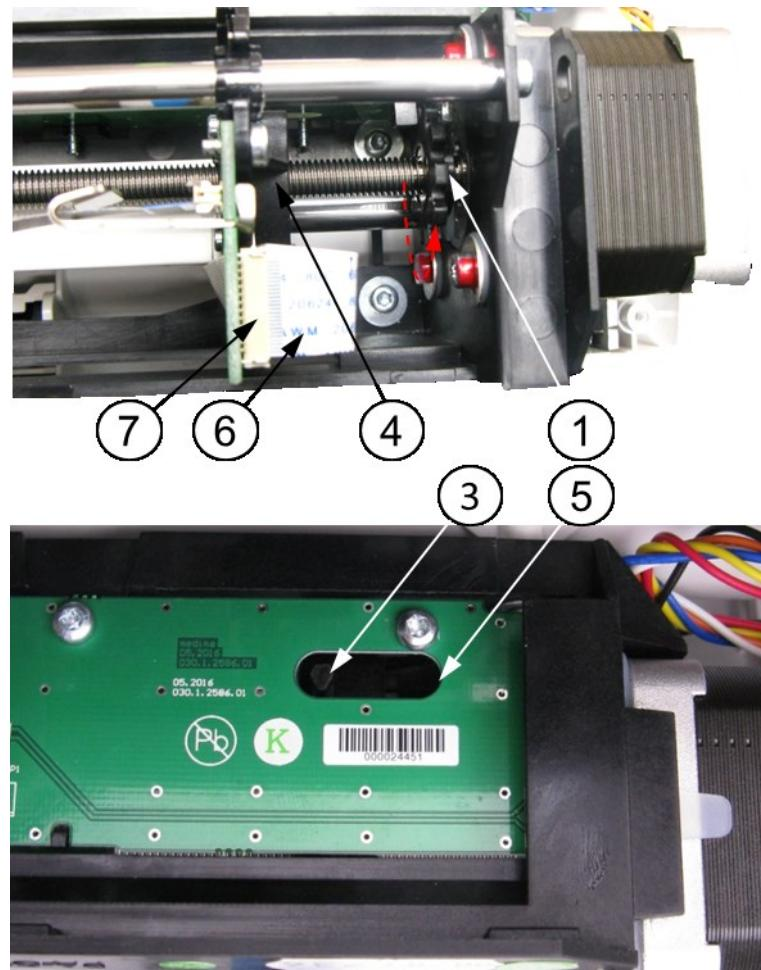
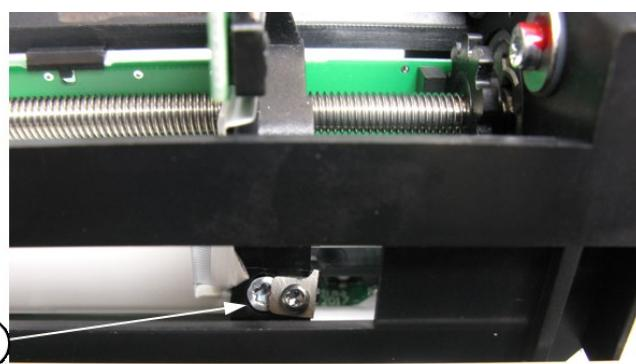
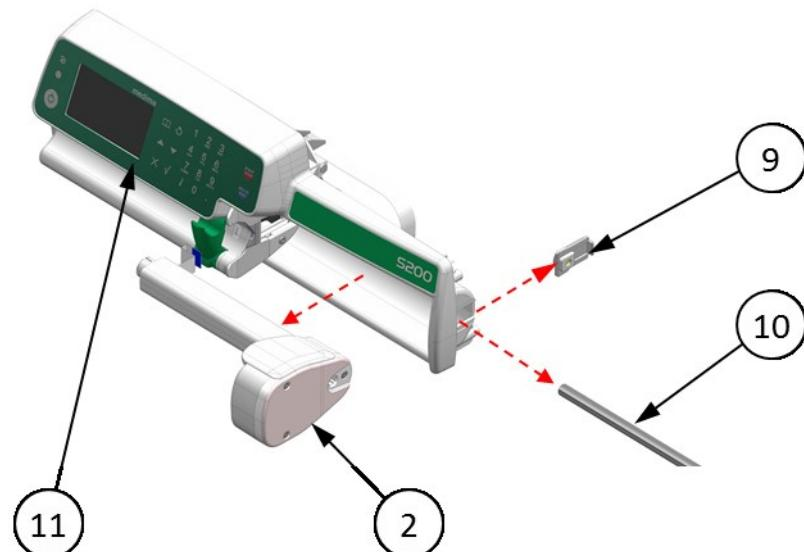

Fig. 42 Proper Pump stem end position for disassembly.
Fig. 43 Pump stem end fixing screw
Fig. 44 Pump stem end removal/installation
2. By rotating the **Tachometer disc** (1) move the **Pump stem end** (2) to the position shown in Fig. 42 – the **Shutter pivot** (3) placed on the **Guide** (4) should be seen on the left end of the oblong **Revision window** (5) of the mechanism.
3. Disconnect the **Pump stem end FFC cable** (6) from the **Socket** (7) (Fig. 42).
4. Using the **TB-1** screwdriver unscrew the **Screw** (8) (Fig. 43) rotating it by 3÷3,5 revolutions.
5. Pull out the **Pump stem end** (2) from the **Guide** (4).
6. Push **Pump stem end axle (10)** towards the **Front case (11)** and keeping its strained position remove the **Pump stem end axle socket (9)** as shown in Fig. 44.
7. Pull out the **Pump stem end axle (10)** from the **Front case (11)** as shown in Fig. 44.
8. Pull out the **Pump stem end (2)** from the **Front case (11)** as shown in Fig. 44.
1. Insert the **Pump stem end (2)** to the **Front case (11)** into the direction contrary to the red arrow in the Fig. 44.
Make sure the Pump stem end axle bushing is placed as shown in Fig. 44. Otherwise place the part correctly into its socket in the Mechanism using the TA-15 Tweezers.
2. Insert the **Pump stem end axle (10)** to the **Pump stem end (2)** placed in the **Front case (11)** into the direction contrary to the red arrow in the Fig. 44.
3. Insert **Pump stem end axle socket** (9) into the direction contrary to the red arrow in the **Fig. 44** until it latches with a „click” sound.
4. Insert the **Pump stem end** (2) to the **Guide** (4) until it latches with a „click” sound.
5. Place the **Pump stem end** (2) on the edge of a workshop table (**Stem end** upwards, **Stem body** downwards). Using the **TA-40** torque screwdriver with the **TA-42** bit, screw in **Screw** (8) as shown in **Fig. 43**.
6. Using the **TA-63** feeler gauge measure the gap between the **Guide** (4) and the **Pump stem end** (2). If measured gap is greater than 0,1 mm, repeat the steps from the two previous points.
7. Plug the **Pump stem end FFC cable** (6) to the **Socket** (7) as shown in **Fig. 42**.